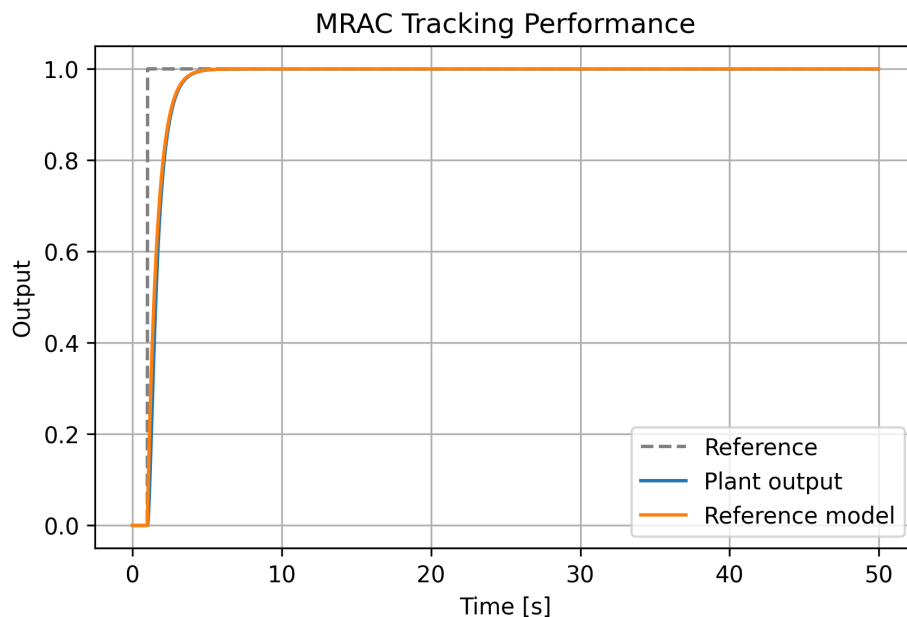

Figure 7.1: MRAC tracking performance generated by `python -m scripts.tutorials adaptive`.
2. Inspect Figure 7.1 to see how the plant output matches the reference model; relate the transient to the Lyapunov design insights in Krstić et al. [6].